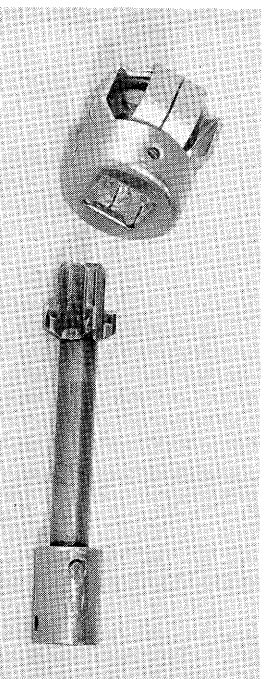

Fig. 37
retightened. For retightening or replacing of the sliding contact a special spanner is necessary, Fig. 37. The tulip contacts, Fig. 4 (25) are fixed with hexagon socket head cap screws M10.